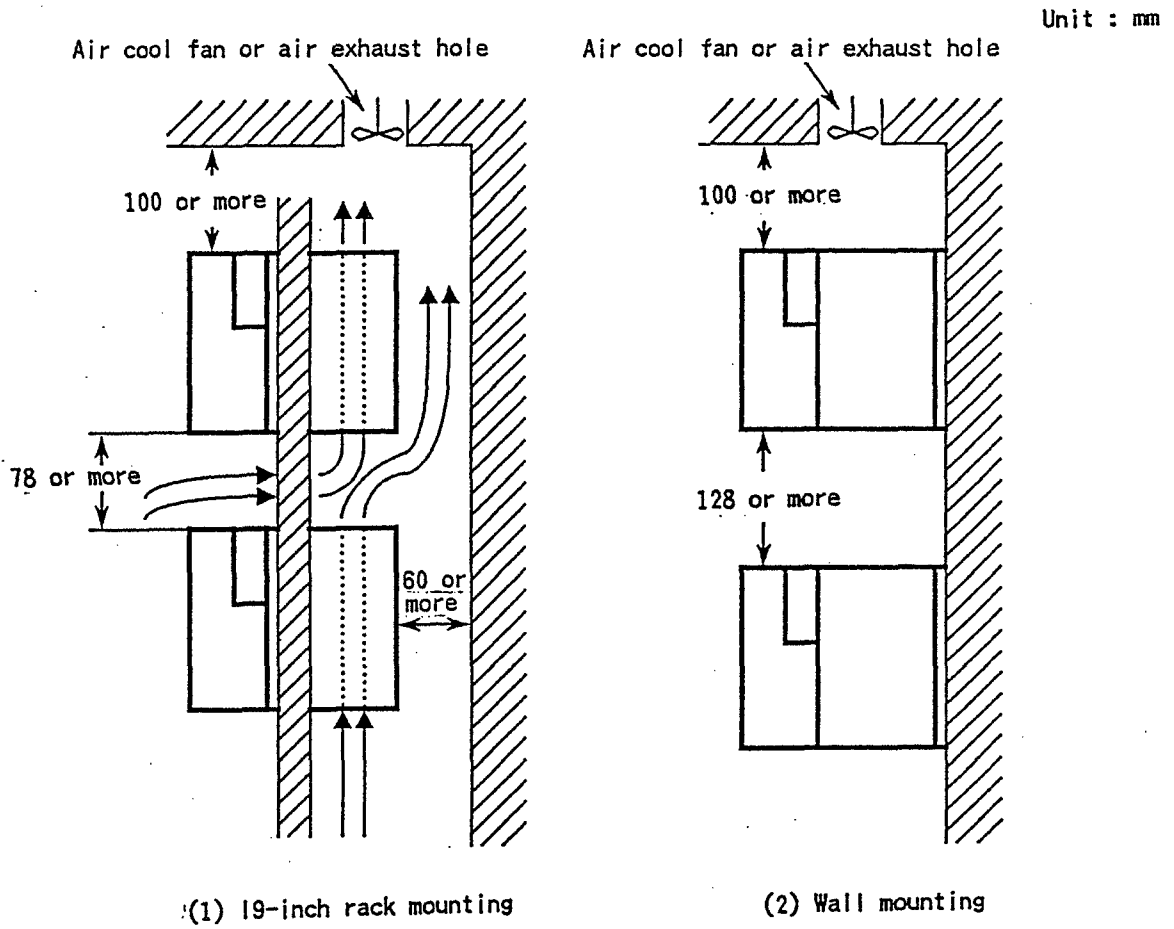

Fig. 5.1 Net setting methods
(1) Secure spaces at up and down for heat protection.
(2) Sufficient spaces are required for front and side of the nest since they are wiring, piping and maintenance area.
(3) When store the nest in the cabinet, make compulsory air cool to prevent raise of temperature.
(4) Do not place the nest on flammable subjects.
(5) When setting the nests by placing up and down direction, take intervals as shown in Fig. 5.1.